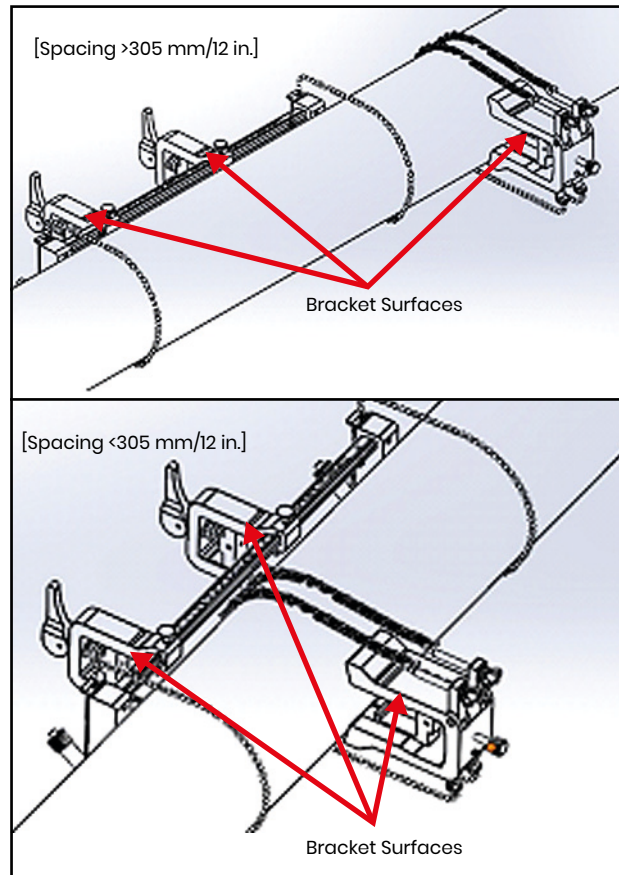

Figure 28: Yoke Rotated into Horizontal Position
4. Rotate the yoke until it is located in a horizontal position on the opposite side of the pipe from the previously installed clamping fixture, as shown in *Figure 28*.
5. Ensure that the top surfaces of the yoke bracket and the clamping fixture brackets lie precisely in the same horizontal plane (see Figure 28 above). Place the fixed clamp in the clamping fixture at zero on the scale.